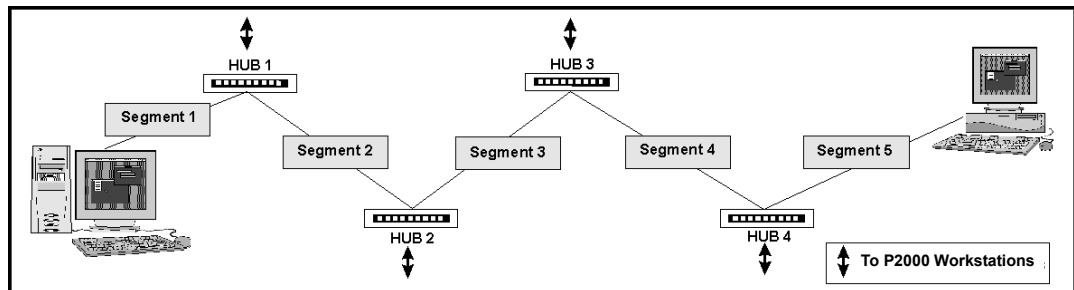

Figure 2-3: Basic 10/100Base-T Network Configuration
- A single LAN, which does not use bridges or routers, can contain a maximum of four repeaters (hubs) and five segments, as shown in Figure 2-3.
- Figure 2-3 is intended only as an example and should not be considered a recommended configuration layout.